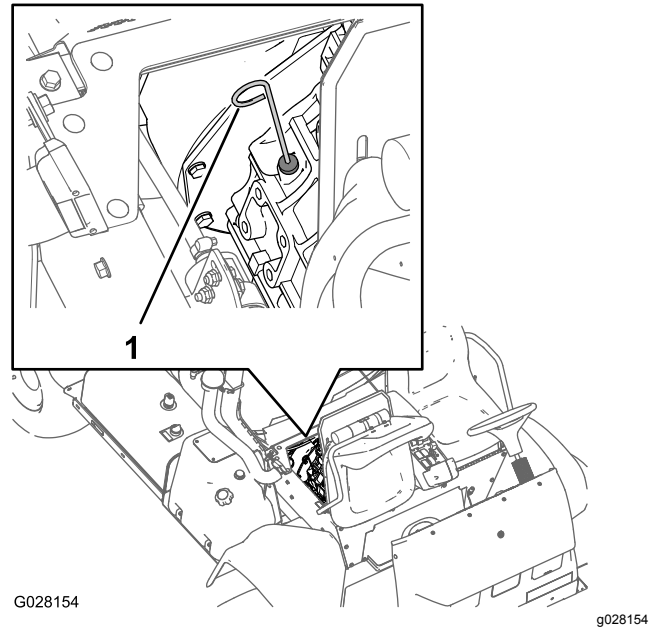

Figure 53
6. Remove the dipstick and check the oil level in the engine (Figure 53).
7. Slowly add additional the specified oil to bring the oil level to the full mark on the dipstick (Figure 53).